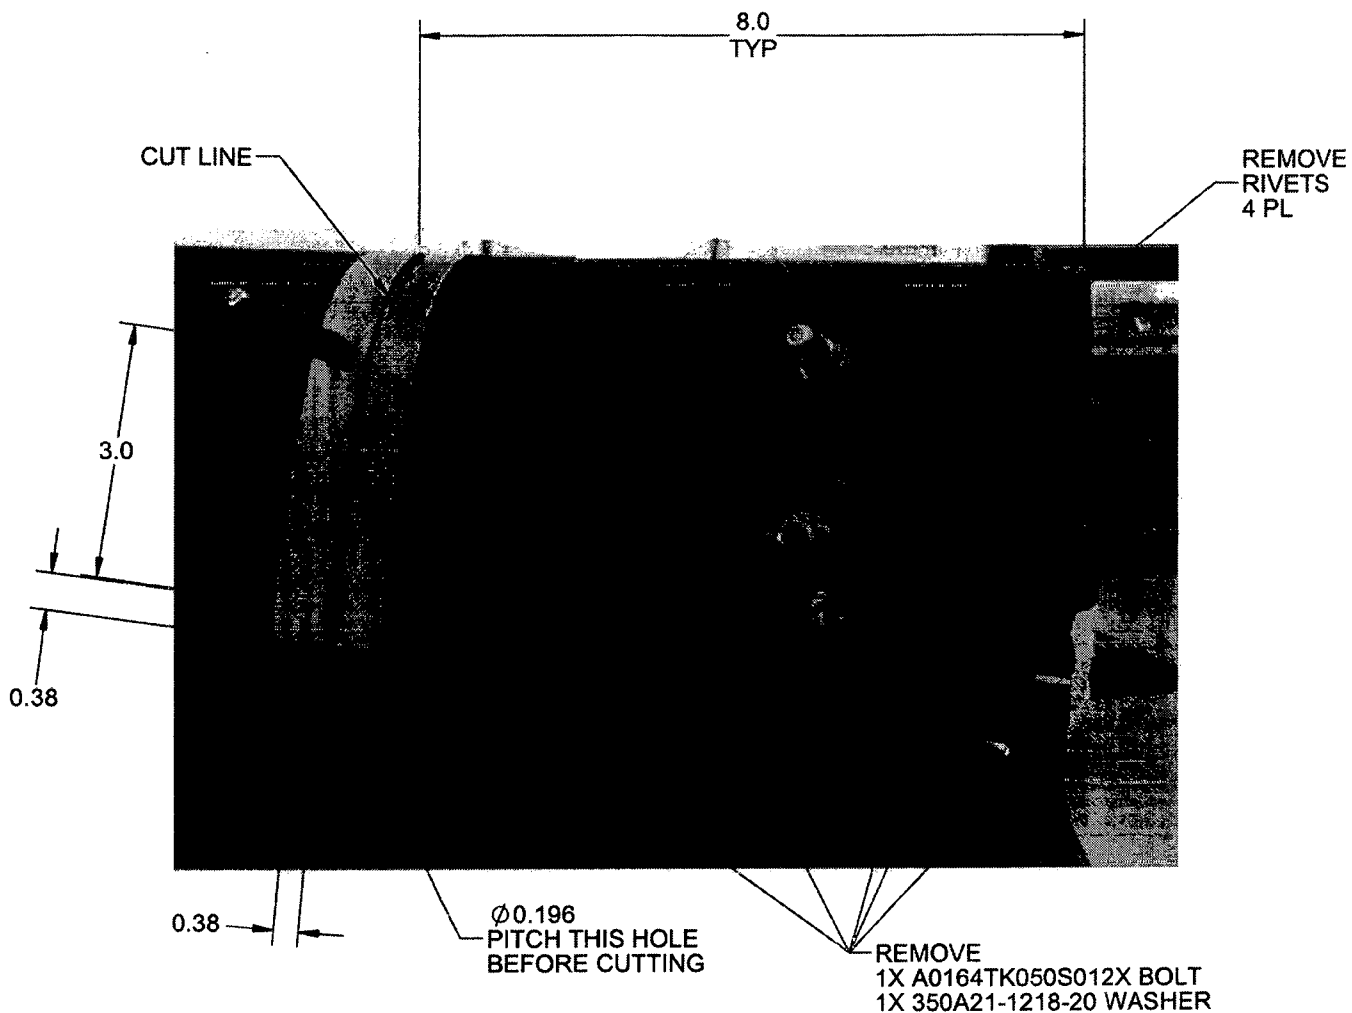
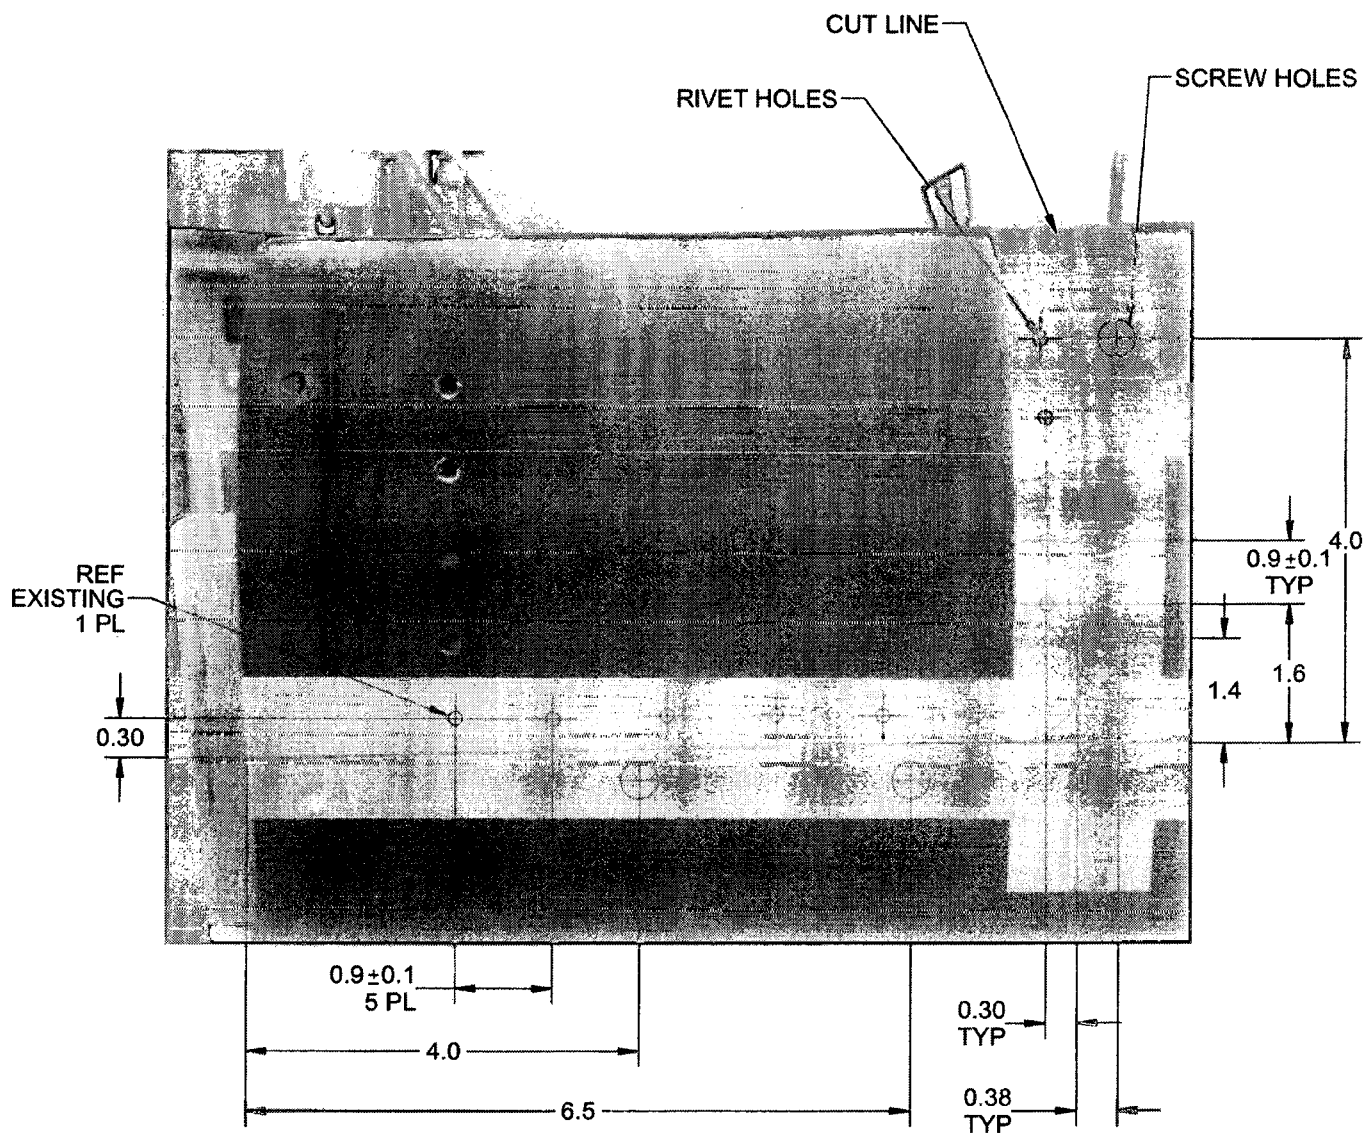

FIGURE 2: CUT DIMENSIONS, INBOARD SIDE
FIGURE 3: HOLE PATTERN, OUTBOARD
- 2.1.2. Remove qty(5) A0164TK050S012X bolts and qty(5) 350A21-1218-20 washers from the cap on the LH Fairing and qty (2) A0164TK050S012X bolts and qty(2) 350A21-1218-20 washers on the inside of the Fairing per Figure 1 and Figure 2 and retain hardware. Remove rivets from the top-most rib per Figure 1 and Figure 2.
- 2.1.3. Mark dimensions per Figure 1 and Figure 2. Mark the hole pattern per Figure 3 and Figure 4.
- 2.1.4. Pitch one $\varnothing 0.196$ hole in line with the existing screw holes while maintaining edge distance and with the marked dimension per Figure 2. This will help ensure consistent alignment.